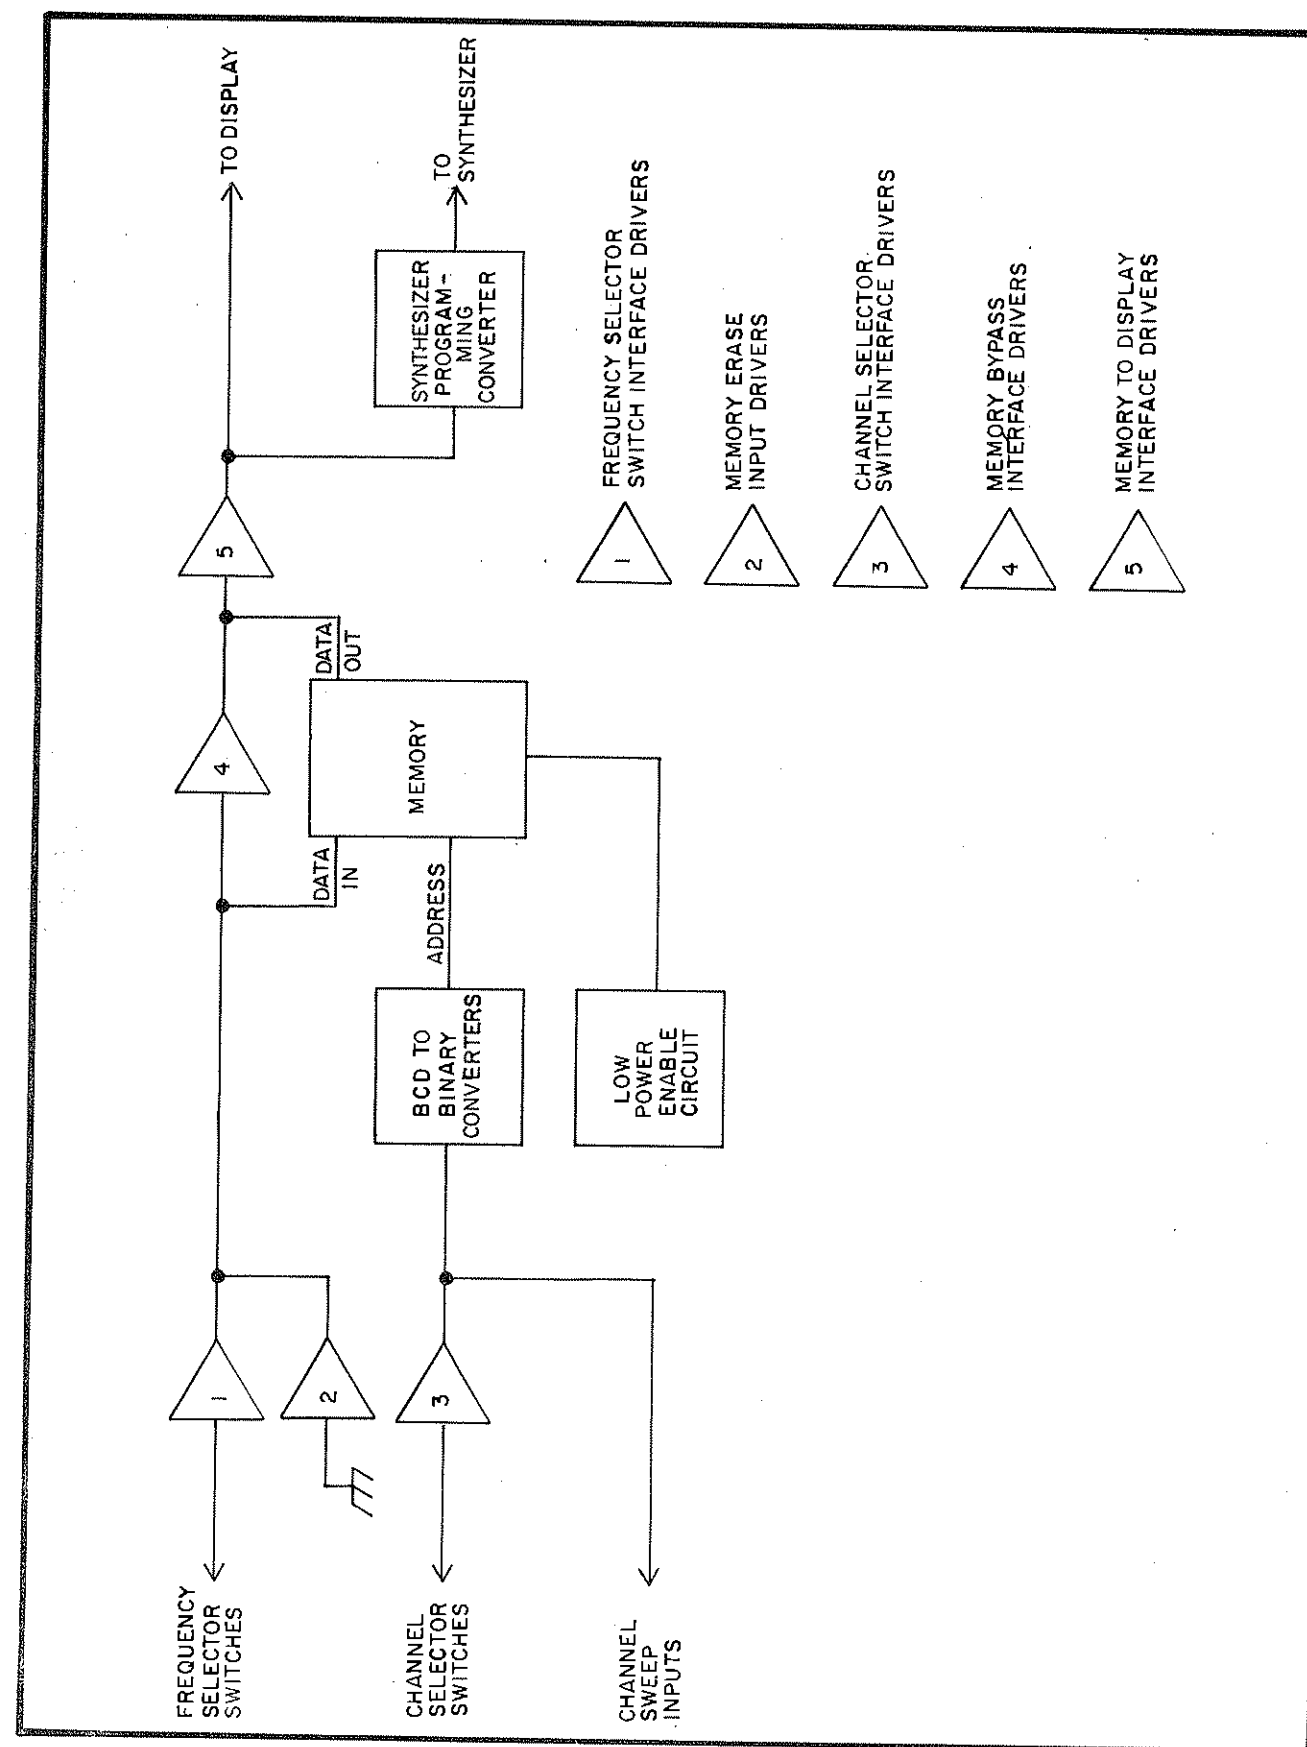

Figure 4.4 GSB-900SC Memory Board Block Diagram (1A1A7)
Figure 4.4 shows a simplified block diagram of the memory system. Portions of the system are enabled or disabled at certain times depending on the mode selected by the Frequency Control Mode Keyswitch.
The Frequency Selector Switch Interface Drivers are designated as Drivers #1 in Fig. 4.4 which is a block diagram of the Memory Board 1A1A7. The Frequency Selector Switch Interface Drivers are comprised of Hex Bus Drivers U23, U24, U25 and U26A. These Drivers pass the BCD Frequency Selector Switch information into the Memory Board except when their outputs are forced into a high impedance state by the presence of a high on the Clear Mode input pin 15 of U23, U24, U25 and U26A. Consequently the BCD Frequency Selector Switch information is always passed into the Memory Board for processing except when the Clear Mode signal indicates that the Master Clear button has been pushed and that zeros are being loaded into all the memory locations. In that case the BCD Frequency Switch information is blocked from entering the Memory Board because the Band Steering Board, 1A1A6, is producing a high on Memory Board input 1A1A7P1-63 called Clear Mode which disables Drivers #1 and prevents any influence by the Frequency Switch information.
The Memory Erase Input Drivers are designated as Drivers #2 in Fig. 4.4, the Memory Board block diagram. The Memory Erase Input Drivers are comprised of Hex Bus Drivers U11, U12, U13 and U14. These Drivers produce high impedance outputs continuously
The Channel Selector Switch Interface Drivers are designated as Drivers #3 in Fig. 4.4. The Channel Selector Switch Interface Drivers includes Hex Bus Drivers U22 and U26B. These drivers pass the Channel Selector Switch information into the Memory Board at the same time the Frequency Selector Switch Interface Drivers pass the Frequency Switch information into the Memory Board. This is because Drivers #3, comprised of U22 and U26B, are enabled by a low on the Clear Mode input pin 15 of U22 and U26A. However, just as with Drivers #1, when the Clear Mode input on 1A1A7P1-63 of the Memory Board is high, the outputs of Drivers #3 become high impedance preventing the Channel Selector Switches from influencing the Memory Addressing Inputs. This action permits the Channel Sweep Inputs seen in Fig. 4.4 to control the Memory Addressing Inputs so that each memory address may be selected in sequence to facilitate the loading of zeros in all memory locations during the Clear Mode.
The Memory Bypass Interface Drivers are designated as Drivers #4 in Fig. 4.4. The Memory Bypass Interface Drivers are comprised of Hex Bus Drivers U15, U16, U17 and U18. If inputs 1 and 15 of U15, U16, U17 and U18 are low, the Memory Bypass Interface Drivers will permit the BCD information simultaneously present both on their inputs and on the Memory Data Inputs to bypass the Memory RAMS, U3 through U8. The outputs of Drivers #4 will appear as outputs on the Memory Data Output lines even though they do not originate within the memories. Inputs 1 and 15 of U15 through U18 are called Read Freq and Secure, respectively. They originate on the Band Steering Board, 1A1A6, and enter the Memory Board at 1A1A7P2-75 and 1A1A7P2-77, respectively. Both signals will be low permitting the Memory RAMS to be bypassed if neither the Read Freq mode nor the Secure mode are selected via the front panel Frequency Mode Keylock switch, S9. If the radio is operating in either the Read Freq or the secure mode, Drivers #4 will be disabled and the contents of the Memory RAMS, U3-U8, will instead be present on the Memory Data Output lines. If the radio is operating in either the Read Freq or the Secure mode, then either inputs 1 or 15 of Drivers U15 through U18 will be high thus causing their outputs to become high impedance. Since the RAM Memory Data Outputs are enabled only during the Read Freq or the Secure Mode and are high impedance during the Normal or the Load Freq mode, the Memory Data Output lines will contain the BCD Frequency switch input data during the Normal and the Load Freq mode and the BCD Memory contents during the Read Freq or the Secure mode.
The Memory to Display Interface Drivers are designated as Drivers #5 in Fig. 4.4. The Memory to Display Interface Drivers are comprised of Hex Buffer/Drivers U27,
U28, U29 and U30. These drivers are always enabled. They provide output drive capability for whatever BCD data is found on the Memory Data Output lines. They send the BCD data on the Memory Data Output lines, whether it represents the Frequency Switch inputs or the contents of Memory, to the Display Driver Board, 1A1A2. The Memory to Display Interface Drivers send the 10 MHz, 1 MHz, 100 kHz and 10 kHz Memory Board output data to the Band Steering Board, 1A1A6, where it drives the two Synthesizer Steering Networks as well as the Band Converter Circuits. On the Memory Board itself, the 10 MHz, 1 MHz and 100 kHz BCD outputs of the Memory to Display Interface Drivers provide control inputs to the Synthesizer Programming Converter seen in Fig. 4.4. The Synthesizer Programming Converter changes the 10 MHz, 1 MHz and 100 kHz BCD output data of the Memory to Display Interface Drivers to Inverted Decimal, Nines Complement and Tens Complement data for the 10 MHz, 1 MHz and 100 kHz Synthesizer inputs, respectively.
The Synthesizer Programming Converter in Fig. 4.4 changes the 10 MHz, 1 MHz and 100 kHz BCD output data of the Memory to Display Interface Drivers to Inverted Decimal, Nines complement and Tens Complement data for the 10 MHz, 1 MHz and 100 kHz
4.3.5.2 Referring again to Fig. 4.4 , the Memory Board Block Diagram, note that portions of the system are enabled or disabled at certain times depending on the mode
selected by the Frequency Control Mode Key switch. The numbered drivers in Fig. 4.4. will define the paths of signals in the following mode descriptions.